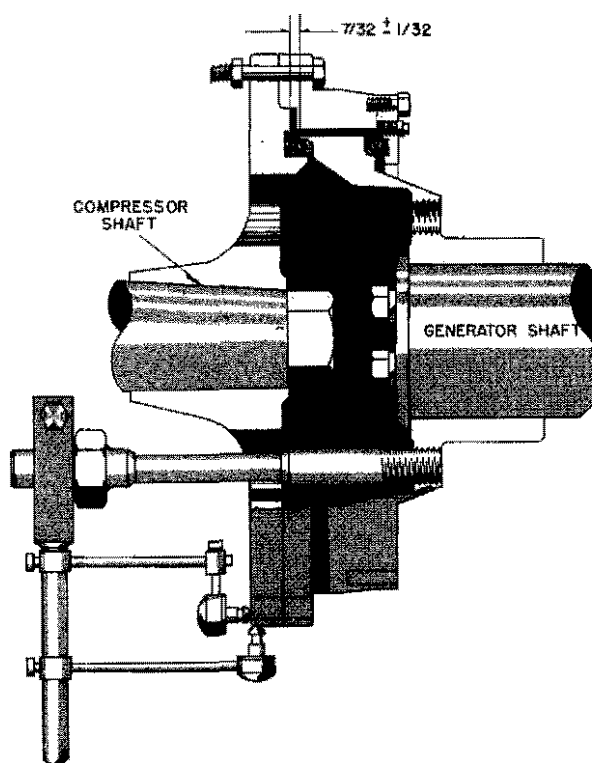

Fig. 20 - Air Compressor And Generator Alignment
1. Disconnect coupling by removing bolts attaching compressor ring gear to compressor flange, see Fig. 20.